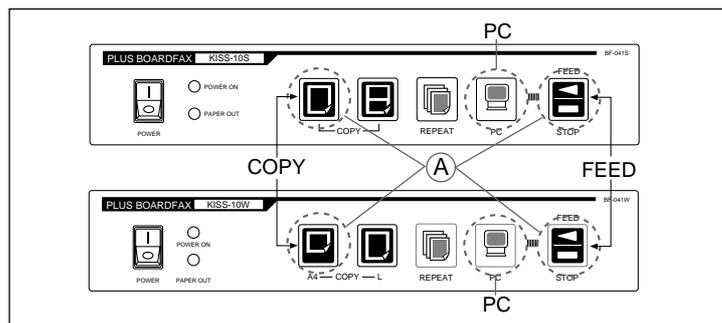

Fig. 5
6) Put the set into the adjustment mode. (See Figures 5.)
- Turn ON the power while pressing and holding the COPY and FEED buttons as shown in portion A of Figures 5.